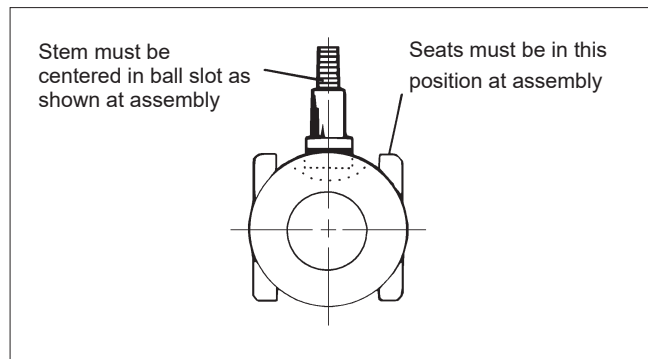
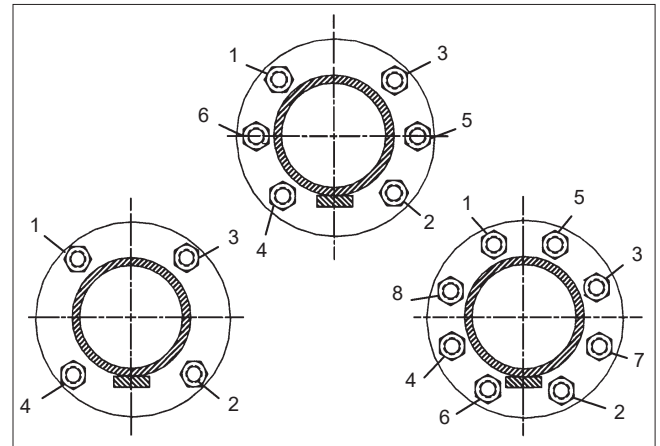

Figure 5. Proper Seat and Ball Orientation
Figure 8. Bolt Tightening Sequence
3. Carefully clean and polish the ball (3) sealing surface: It should be free of all scratches and grooves.
5. Slide one valve seat (7) sideways into the body (1) to below the stem bore, and tilt it into place so that the proper surface (see **Figure 5**) will be adjacent to the ball (3), being careful not to cut or scratch the seat.
12. Place the valve in a vertical position, body joint up, on a clean soft surface such as a folded rag or a piece of cardboard. Insert bottom grounding spring (36) into hole at the bottom of the stem (5). Insert the ball (3) rotating it onto the stem (5) in the closed position. If necessary, turn the stem blade to align with the ball slot. Make certain that the stem blade is in the middle of the ball slot; i.e. equal distance from the ends of the slot. Rotate the ball if necessary (see **Figure 5**).
13. Gently place the body gasket (65) into the machined recess of the body (1).
14. Place the remaining seat (7) on top of the ball.
15. Place the body cap (2) over body studs (12) being careful to properly orient body cap and body as originally assembled by matching orientation marks made prior to disassembly. Take care not to damage body gasket (65) or seat (7) during this operation.
16. Lubricate the threads and face of nuts (16) with Never-Seez® or equivalent. Install nuts (16) on body studs (12) and tighten sequentially as shown in the diagram (**Figure 8**), to the recommended torques as shown in the torque chart (**Table 2**).